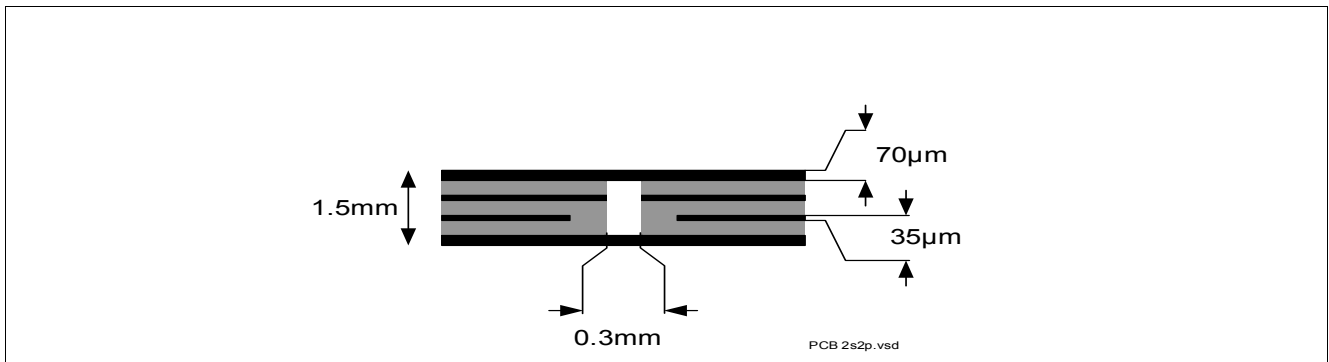

Figure 4 2s2p PCB Cross Section
- 2) Specified R_{thja} value is according to JEDEC JESD51-2,-5,-7 at natural convection on FR4 2s2p board; The product (chip + package) was simulated on a 76.4 x 114.3 x 1.5 mm board with 2 inner copper layers (2 x 70 μ m Cu, 2 x 35 μ m Cu). Where applicable, a thermal via array under the exposed pad contacts the first inner copper layer. Please refer to Figure 4.